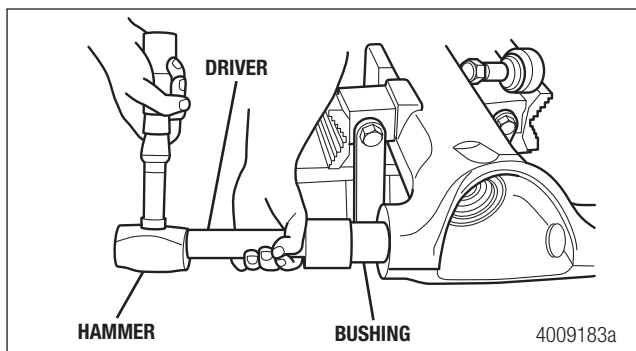
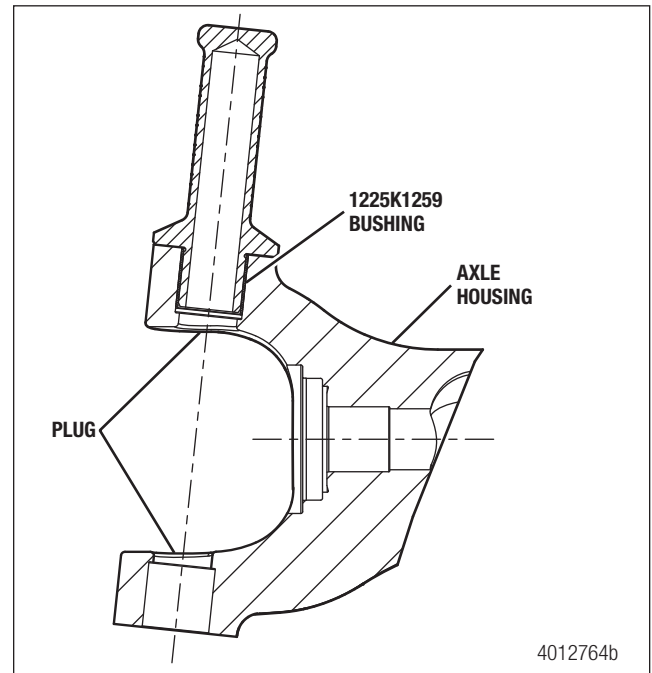
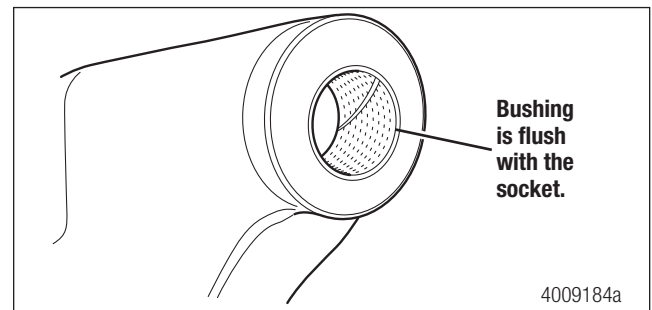

Figure 11.1
Figure 11.2
Figure 11.3
1. Use the king pin bushing driver tool (part number 3256-Y-1299) to drive the new upper and lower king pin bushings into the socket bore until the bushings are level with the outside of the socket. Refer to King Pin Bushing Driver (3256-Y-1299) on page 76. Figure 11.1, Figure 11.2, and Figure 11.3.